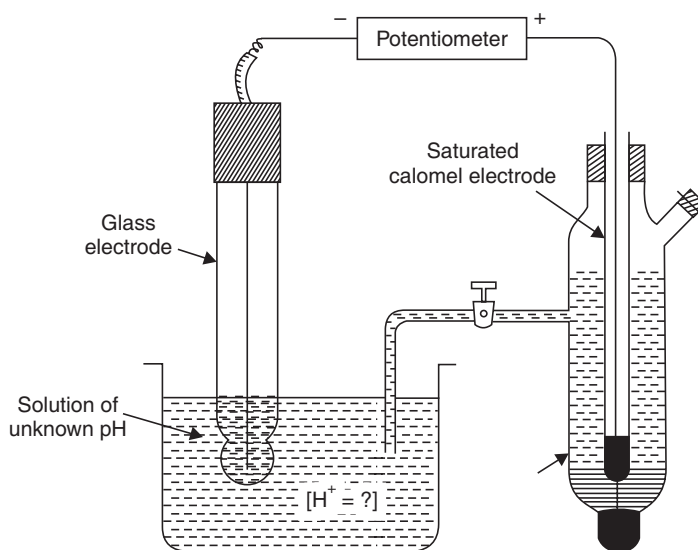

Fig. 10.10 Determination of pH by Glass Electrode.
**For pH determination with the help of glass electrode** the electrode is dipped into the solution where pH is to be determined and is usually combined with a reference electrode—generally calomel electrode—to form a complete cell. The potential of the glass electrode varies linearly with pH (Fig. 10.10).